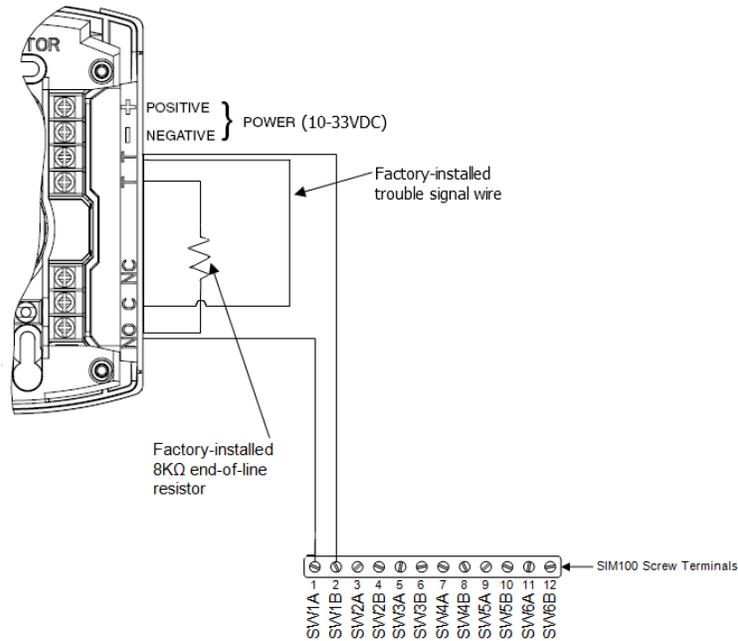

Figure 1 - Wiring Diagram
Please follow these instructions to connect the CO-CO1224T to the NMEA 2000® network via a Maretron SIM100 Switch Indicator Module. The wiring diagram appears in Figure 1 on the reverse side of this page. The diagram shows a connection to channel #1, but connections to other channels are similar.
1. Connect the CO-CO1224T power terminals to a 10-33VDC supply that is independent of the NMEA 2000® network power supply as shown in Figure 1. Powering the unit separately from the NMEA 2000® network allows the detector to work even when the NMEA 2000® network is powered off.
2. Connect two wires from the CO-CO1224T to a free switch channel on the SIM100. The example in Figure 1 shows the detector connected to switch channel 1, terminals SW1A and SW1B.